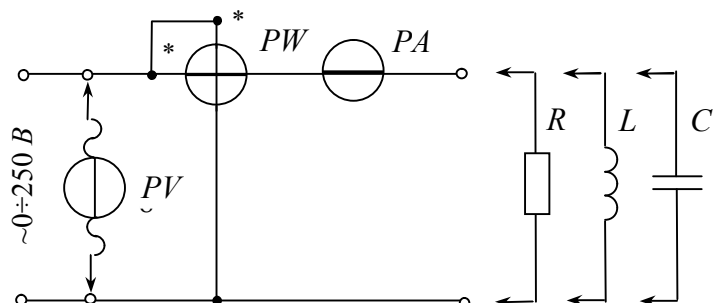

Fig. 3.11.
$<2 \kappa\Omega>$; PA – amperemeter Э536, limit of measuring $<0.5 A>$; PW – wattmeter for measuring power, limit of measuring: $<150 V / 0.5 A>$. The way of measuring devices placement is shown in fig. 3.11.
1. To collect the circuit (fig. 3.11) and connect it to the clamps $<\sim>$ $<0 \div 250 V>$. To place $LATR$ switch in position $<\sim>$, $0 \div 250 V$.
The name and purpose of the work. Homework – the calculation of the circuit. Schematic diagram of the investigated circuit (fig 3.11). Tables 3.2, 3.3, 3.4. The substitutional schemes of coil and capacitor and calculations of their parameters. Vector diagrams for resistance, coil and capacitor. Conclusions.